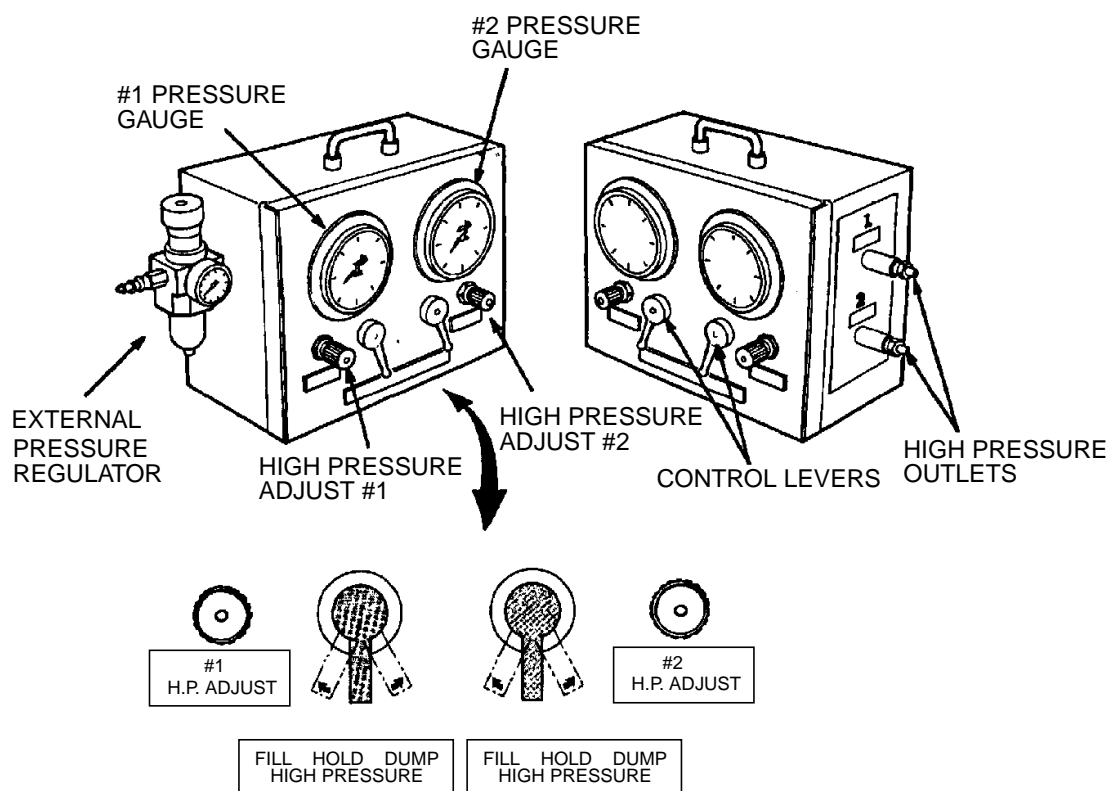

Figure 1 - Pressure Test Rig
- 5.2.1 Before operating the pressure test rig, ensure that both control levers are in the HOLD position (see Figure 1). The pressure test rig may be used to test two fuel line systems simultaneously, using both the #1 and #2 high pressure test systems.